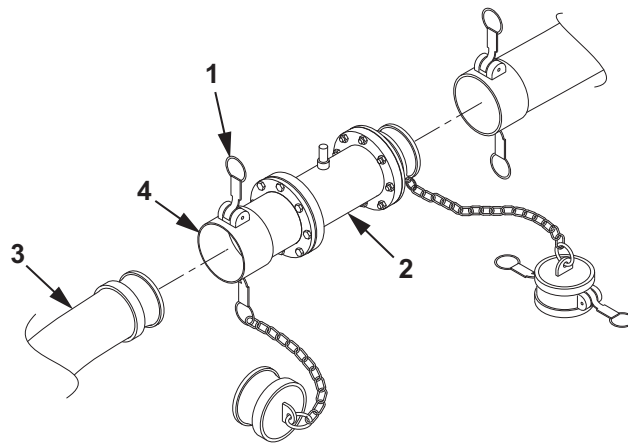

Figure 1. Tank Volume Meter Removal.
1. Position tank volume meter assembly (Figure 1, Item 2) between two 4 in. X 10 ft hoses (Figure 1, Item 3).
2. Connect two 4 in. X 10 ft hoses (Figure 1, Item 3) to tank volume meter assembly (Figure 1, Item 2).
3. Push in on coupling half camlock levers (Figure 1, Item 1) to secure tank volume meter (Figure 1 item 2) to 4 in. X 10 ft hoses (Figure 1, Item 3).